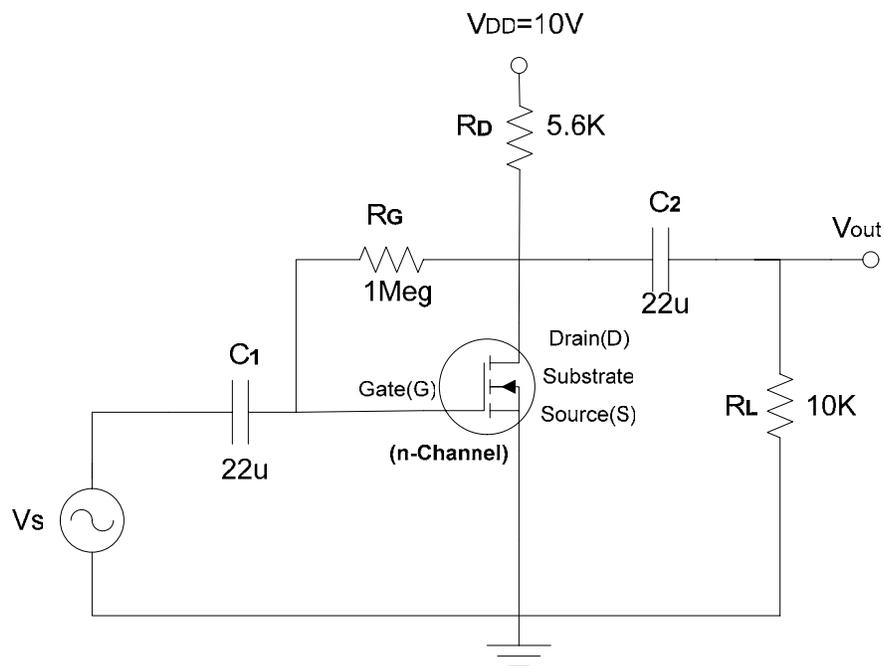

Figure 1 MOSFET Amplifier
1. For the MOSFET CS amplifier circuit shown in Figure 1, assume $V_t = 1.5V$, $K=0.5mA/V^2$ and calculate the drain current I_D , and all DC voltages (V_D , V_G , V_S). Check for saturation mode operation.
Two of the most popular configurations of small-signal MOSFET amplifiers are the common source and common drain configurations. The common source circuit is shown in Figure 1. The common sources, like all MOSFET amplifiers, have the characteristic of high input impedance. High input impedance is desirable to keep the amplifier from loading the signal source. This high input impedance is controlled by
1. **DC ANALYSIS:** Connect the MOSFET CS amplifier circuit shown in Figure 1. Use a voltmeter to measure the transistor voltages (V_D , V_G , V_S) and drain current (I_D). Make sure your transistor is biased in the saturation mode for amplifier application. Compare all DC results to your prelab calculations.